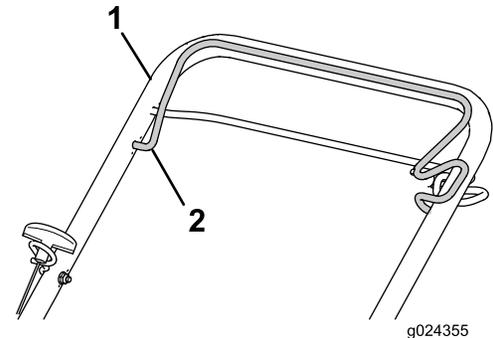

Figure 13
3. Hold the blade-control bar against the upper handle (Figure 13).